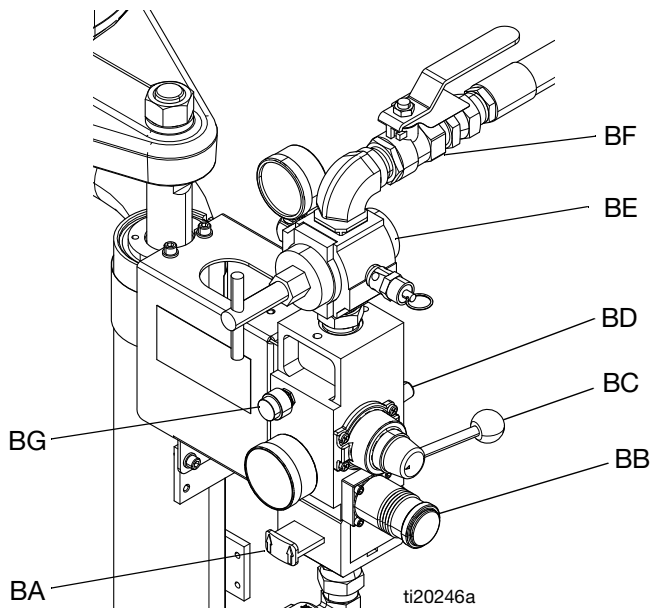
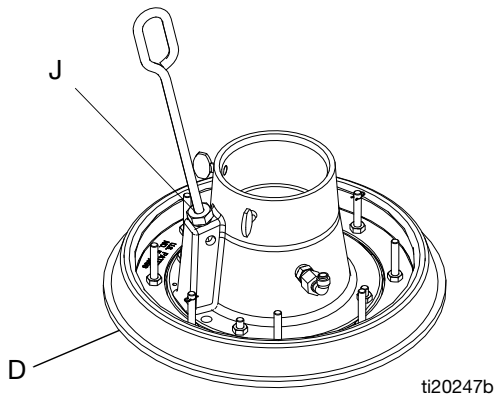

FIG. 2. Integrated Air Controls
FIG. 9
| G | Integrated Air Controls (see FIG. 2 on page 6) | V | Bleed Type Air Shutoff Valve |
2. See FIG. 2, page 6.
- a. Close the air motor ball valve (BF) and the main air slider valve (BA).
- b. *If the RAM is in a raised position*, set the ram director valve (BC) to DOWN. The ram will slowly drop.
2. Refer to FIG. 1 and FIG. 2. Close all air regulators and air valves.
3. Open main air slider valve (BA) and set ram air regulator (BB) to 45 psi (0.31 MPa, 3.1 bar). Set director valve handle (BC) to UP and let the ram rise to its full height.
- Put a full drum of fluid on the ram base, slide it back against the drum stops, and center it under the platen (D). See Fig. 9.